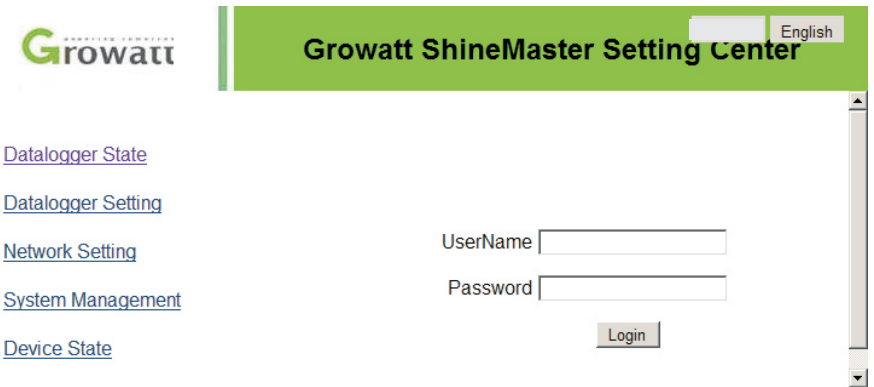

Fig 8.25
A. If the user successfully visits the ShineMaster built-in page, they can go directly to the built-in page login interface, as shown in figure 8.25 below.